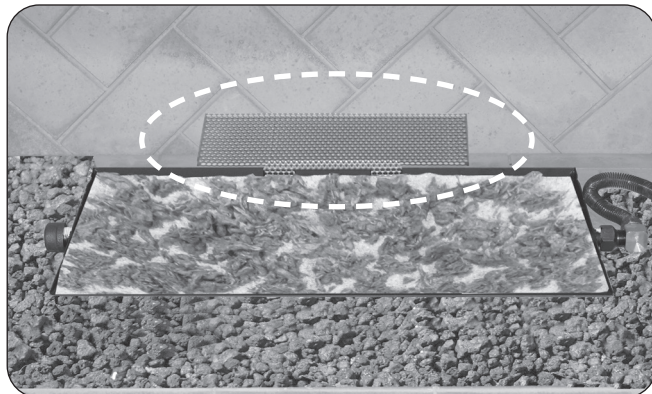

Fig. 13-1 Attach screen (if applicable)
1. Attach the ember screen to the burner by slipping it onto the back edge (center left to right) with the perforated section facing towards the back fireplace wall (Fig. 13-1).